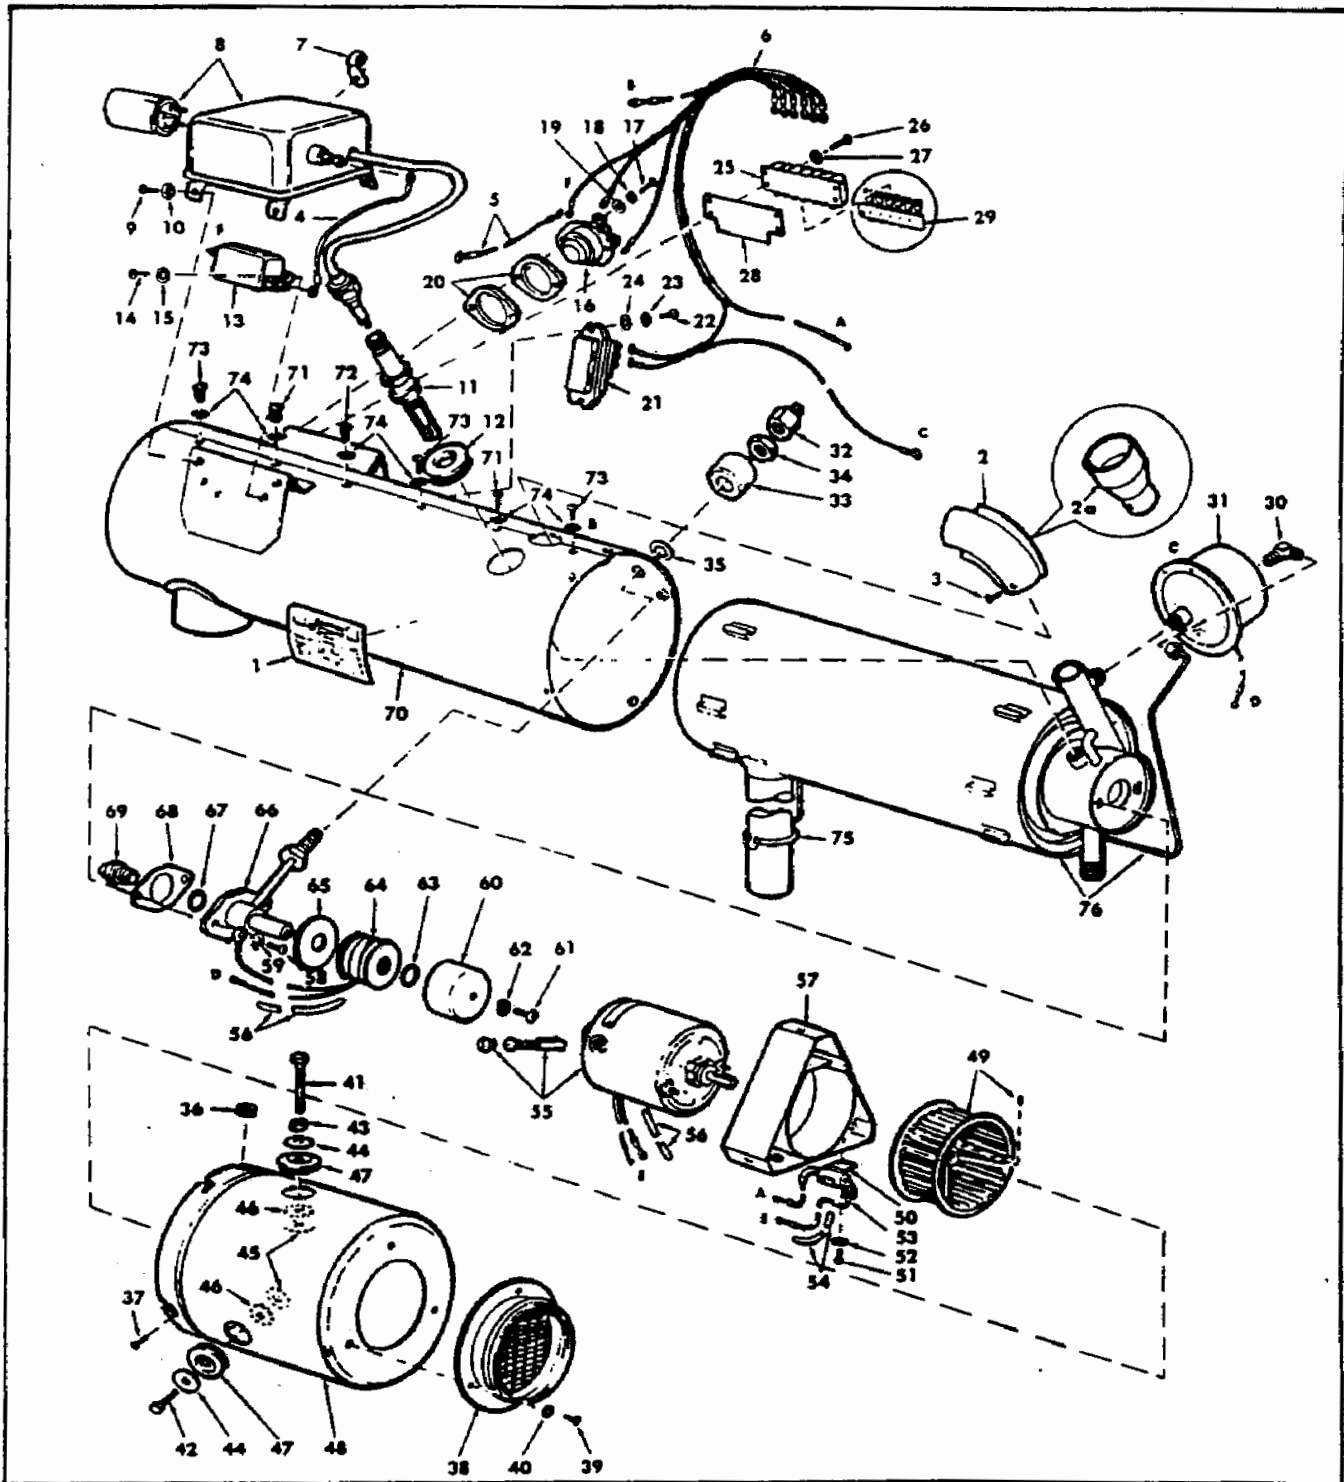

FIGURE 6-1 Exploded View of Business Aircraft Heater Assembly Non-Pressurized
#### e. Test the spray nozzle (69, Figure 6-1; 38, Figure 6-2) as follows:
#### 4.11 Reassembly (See Figure 6-1)
l. Insert the fitting on end of nozzle fuel tube through the opening in jacket (70) and attach the nozzle holder to the combustion tube assembly (76) with the two screws (58) and lockwashers (59). It may be necessary to place a slight bend in the shrouded fuel tube to permit alignment of screw holes. Be sure to use a new gasket (68) and connect the solenoid ground wire under one of these screws. Make sure a good electrical ground connection exists at this point.
m. Using a new spark plug gasket, install the spark plug (11) and tighten to a torque of 28 pounds-feet. Install the grommet (12) in the jacket around the spark plug.
n. Install the ignition assembly (8) on the jacket assembly (70) with the four screws (9) and lockwashers (10). Connect the high-voltage lead to the spark plug and tighten it to 20 pounds-feet.
o. Attach the radio-noise filter (13, Figure 6-1), not used on new ignition box (14, Figure 6-2), to the jacket assembly (70) with the two screws (14) and lockwashers (15).
p. Attach the overheat limit switch (16) and spacer gaskets (20) to the jacket assembly (70) with the two screws (17), lockwashers (18) and flat washers (19). Tighten the screws securely. (Sealed on some heaters.) After installing overheat limit switch (16) and cycling switch (21), visually check to make sure that switch does not come in contact with outer radiator.
q. Attach the cycling switch (21) to the jacket assembly (70) with the two screws (22), lockwashers (23) and flat washers (24). (Sealed on some heaters.)
r. Place the terminal strip insulator (28) in position on the jacket (70), followed by the terminal strip (25). Secure both parts by installing the two screws (26) and lockwashers (27). The two screws are located at two diagonal corners of the terminal strip.
s. Center the fuel fitting in jacket opening. Place the fuel fitting shroud gasket (35) and shroud (33) on the fuel fitting, and install the nut (34) finger tight. Insert a 3/4 inch open-end wrench inside the jacket and hold the fuel-tube fitting while tightening the nut (34) with a 3/4 inch deep socket. Install the reducer fitting (32), if used.
t. Rotate the combustion air switch (31) onto the threaded fitting on the combustion air tube and tighten it firmly.
u. Slide the grommet (36) over the combustion air tube and connect the tube to the elbow fitting (30) on the combustion air pressure switch (31). Grommet can be split for easier installation.
v. Install the wiring harness (6) and connect all wire leads to their respective terminals. (Refer to the wiring diagram, Figure 2-6.) Place the grommet (36, Figure 6-1) in position in the jacket (70), locate the ventilating air housing (48) at the end of the jacket. Thread the quick disconnect on the wiring harness (see Figure 6-1) through the grommet (36) and connect it to the mating connector on the motor lead.
w. Place the blower housing in position on the jacket assembly (70) and secure it by installing the four screws (37), if removed at disassembly. This operation is easier if the screws (37) are started into their threads and the blower housing rotated into place, allowing the screws to enter the notched openings in edge of blower housing. Tighten all screws securely.
x. Install the elbow adapter (2), or the straight adapter (2a), as used on the particular heater involved, with the screw (3).